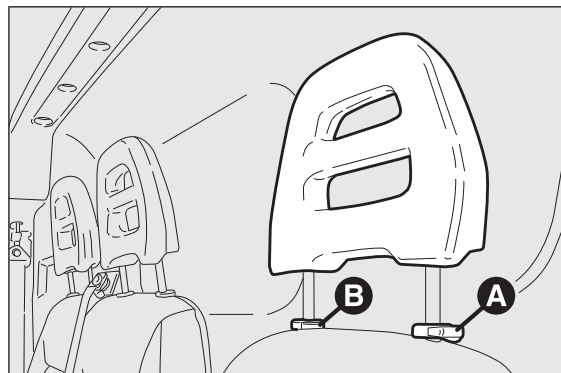

fig. 39
On certain versions the head restraints are adjustable in height and they lock automatically in the required position fig. 39.
- ☐ Downwards adjustment: press the button A fig. 39 and lower the head restraint.
To extract the front head restraints press buttons A and B fig. 39 at the side of the two supports simultaneously and release them upwards.